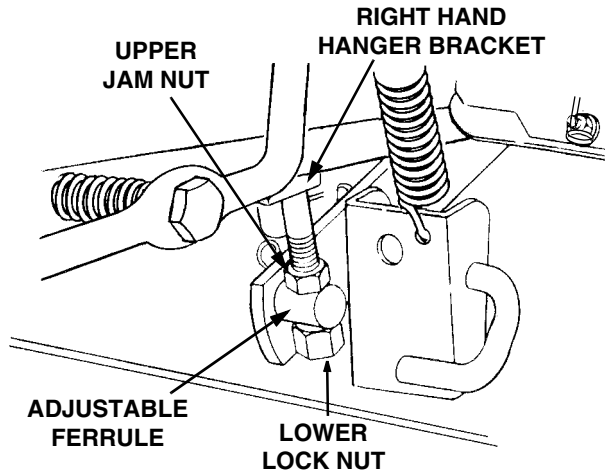

Figure 58
7. Side-to-side leveling is obtained utilizing the adjustment ferrule and right hand hanger bracket (Refer to Figure 58).
- Loosen the upper jam nut on the hanger bracket and turn away from the adjustment ferrule. Turn the lower lock nut upward (tighten) on the threads of the hanger bracket to raise the right side of the mower deck. Turn the lock nut down (loosen) on the threads to lower the right side of the mower deck (Refer to Figure 58).